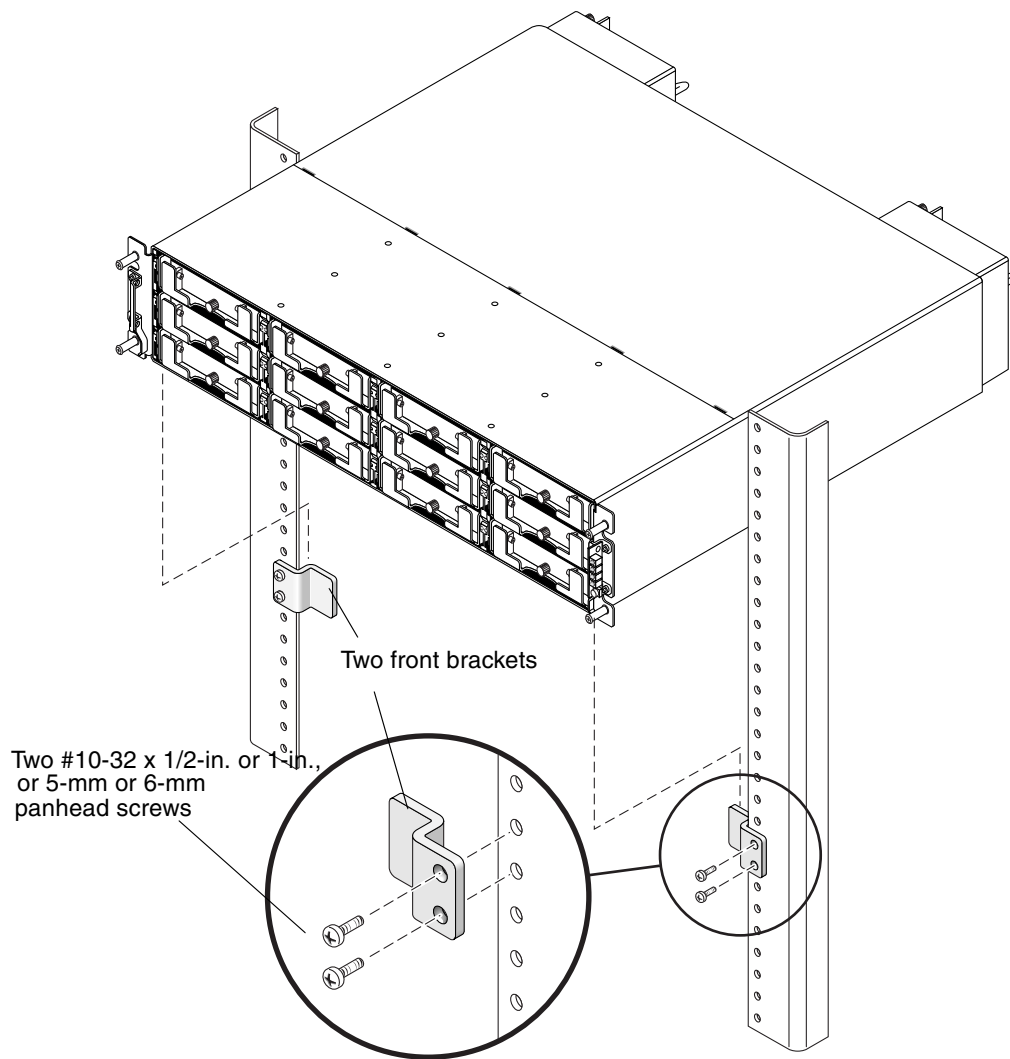

Figure 1-4 Front Bracket Position on the Rack Face
- a. Attach each front bracket to the rack face (See Figure 1-4):